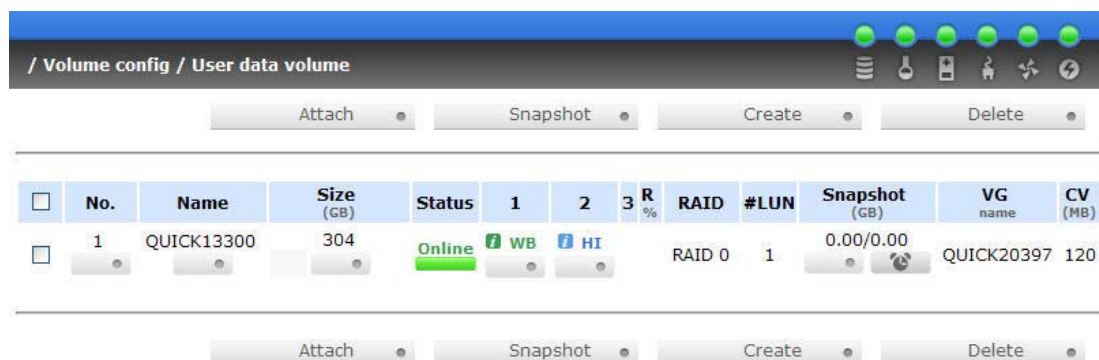

Figure 3.3.2
Step 3: Confirm page. Click “Confirm” if all setups are correct. Then a page with the “User data volume” just been created will be shown as Figure 3.3.2.
(Figure 3.3.2: A RAID 0 user data volume with the UDV name “QUICK13300”, named by the system itself, with the total available volume size 304GB.)